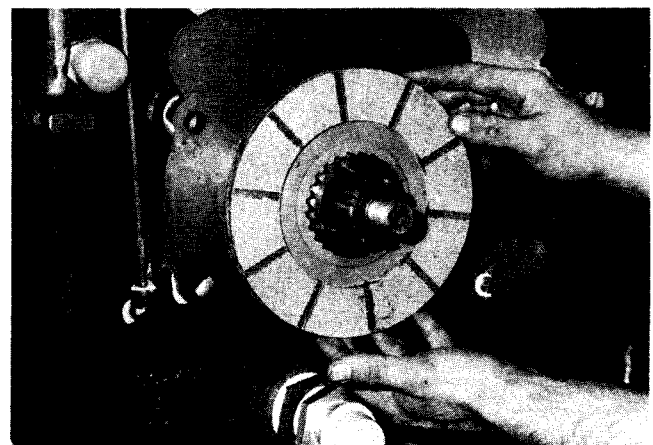

Figure 3
3. Slide one disc over splined sleeve. (Figure 3)